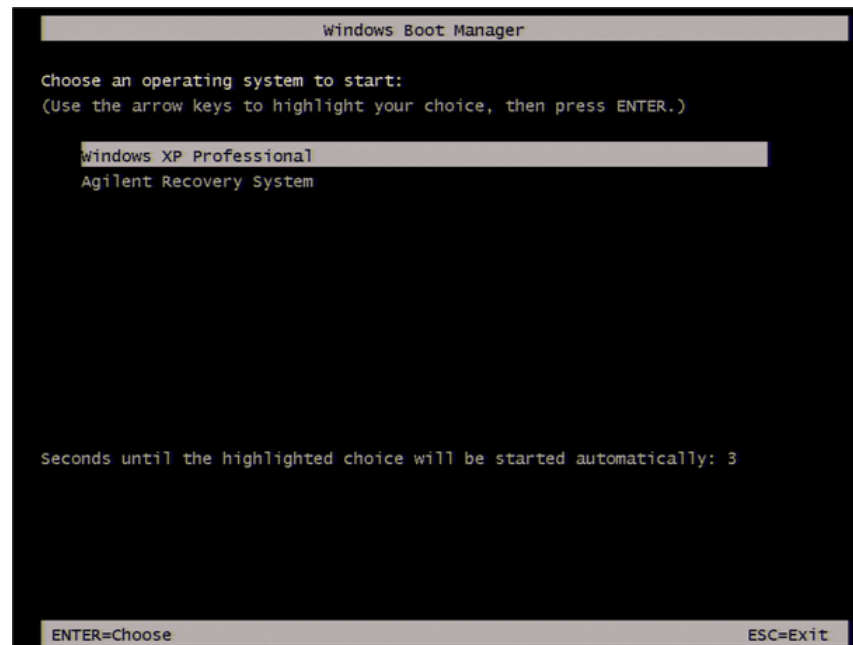

Figure 12 System start up screen in Windows XP Pro for Embedded Systems (1/2)
Step 2. The screen as shown in the Figure 12 appears. Select **Windows XP Professional** and press **[Enter]**.